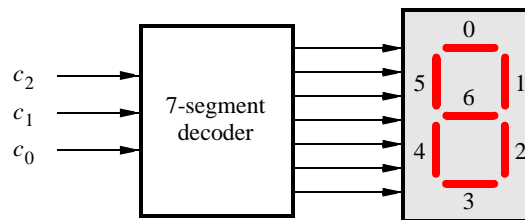

Figure 8. A 7-segment decoder.
Figure 8 shows a 7-segment decoder module that has the three-bit input $c_2c_1c_0$. This decoder produces seven outputs that are used to display a character on a 7-segment display. Table 1 lists the characters that should be displayed for each valuation of $c_2c_1c_0$. To keep the design simple, only four characters are included in the table (plus the 'blank' character, which is selected for codes 100 – 111).
2. Create a VHDL entity for the 7-segment decoder. Connect the $c_2c_1c_0$ inputs to switches SW_{2-0} , and connect the outputs of the decoder to the *HEX0* display on the DE2-series board. The segments in this display are called $HEX0_0, HEX0_1, \dots, HEX0_6$, corresponding to Figure 8. You should declare the 7-bit port